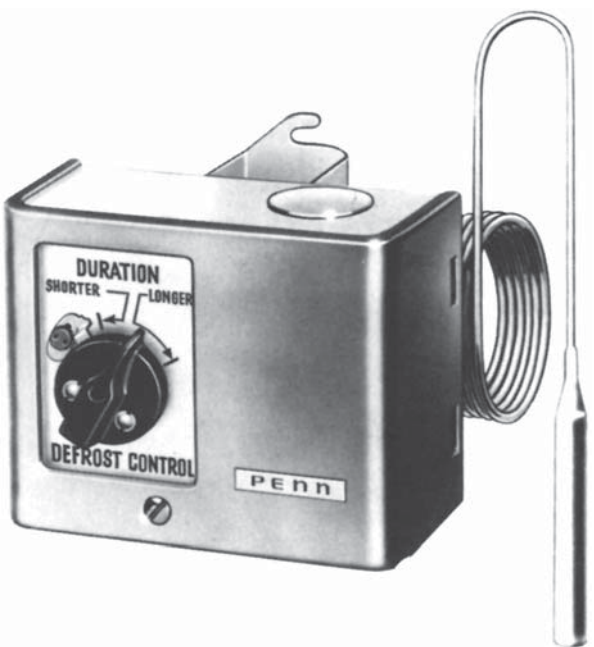

FIGURE 20-5 Defrost termination switch with remote sensing bulb.
2. The defrost termination thermostat is a three-wire, SPDT switch, usually with a remote sensing bulb (see Figure 20-5).